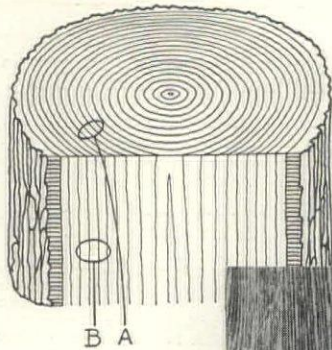

Fig. 1
These illustrations show the effect of timber growth upon flooring. Slow growth, which depends on favorable climate, soil and drainage, causes the close annular growth rings (A), which, in turn, produce the fine, even grain (B), typical of all Ritter Appalachian Oak Flooring (Fig. 1), the use of which assures the most beautiful oak floors.
These rings, in turn, produce the fine, even grain and uniform texture indicated by the lines (B), typical of all Ritter Oak Flooring, Figure 1, which is manufactured exclusively from Oak timber grown on the well-drained slopes of the Appalachian Mountains.